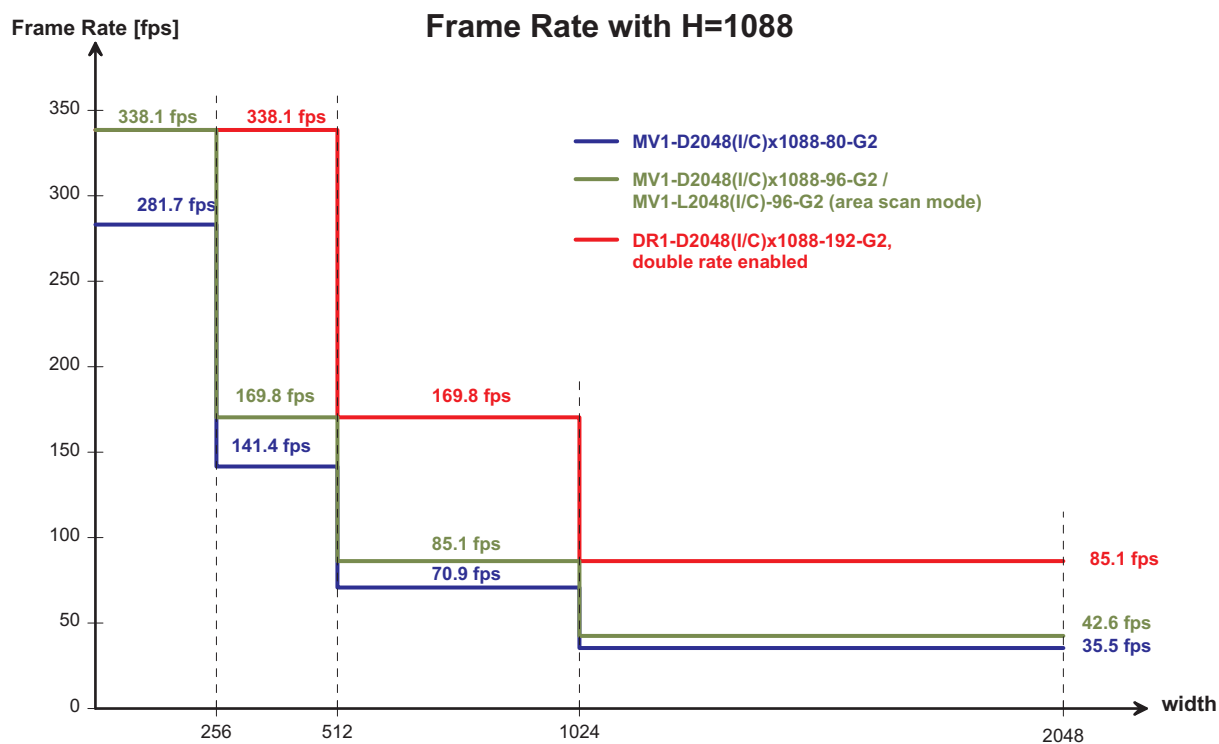
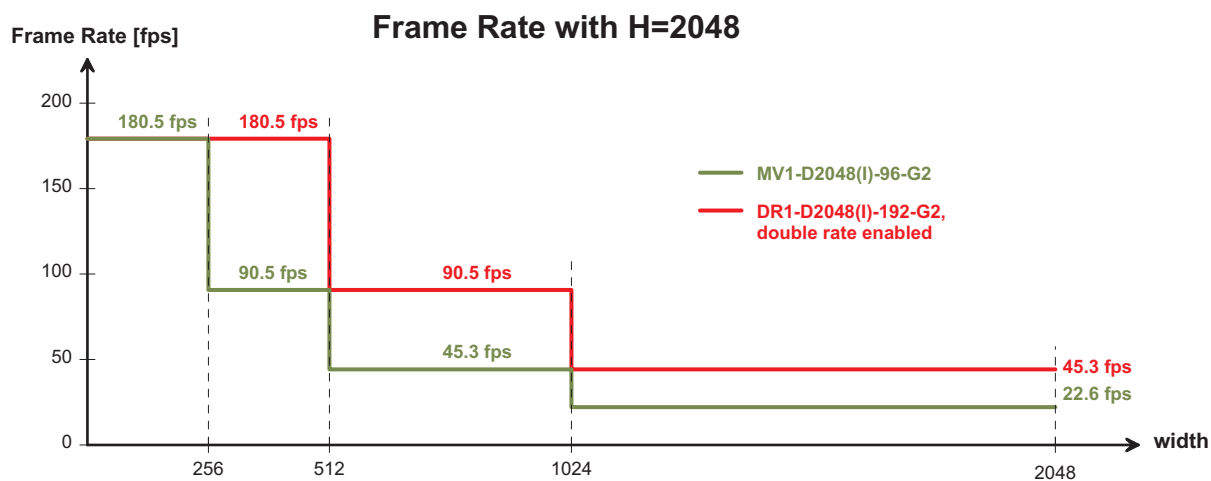

Figure 5.1: Frame rate in function of ROI width at H=1088 for 2.2 MPix models
Figure 5.2: Frame rate in function of ROI width at H=2048 for 4.2 MPix models
Reduction in width also results in a frame rate increase. The increase is not linear but in steps (see Fig. 5.1 and Fig. 5.2).
- ROI width: a smaller width ROI can lead to an increase in the maximal frame rate, but only in steps (see Fig. 5.1).